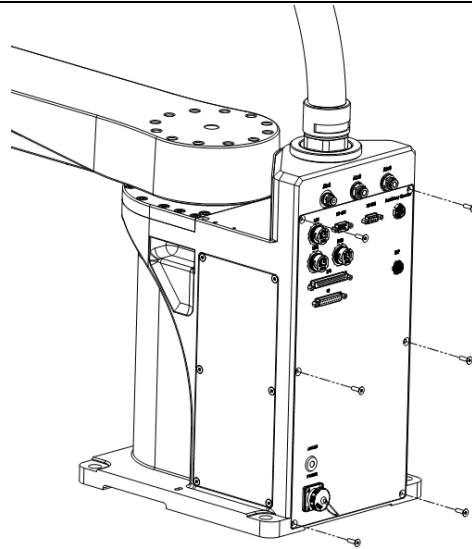

Figure 4-11 Remove the fastening screws from the interface panel
Step 1 Use the Allen wrench to remove the fastening screws from the interface panel, as shown in Figure 4-11.